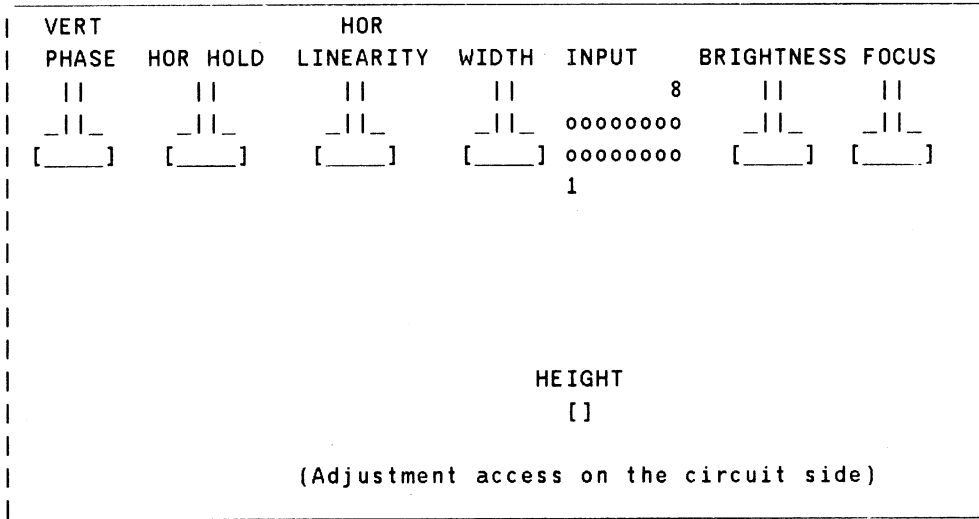

Figure 5-2. Display Adjustment Locations
- h. Adjust BRIGHTNESS control pot to minimum (full counter-clockwise). See figure 5-2 for the display adjustment locations.
- f. Adjust the BRIGHTNESS control pot until the Display Test Pattern is visible. See figure 5-2 for the display adjustment locations.